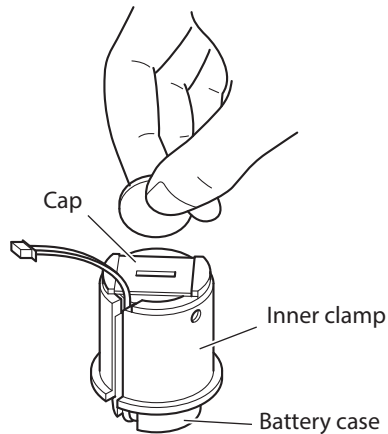

Fig. 23 Removing the Battery Cap
- 4 Turn the cap on the battery case using a coin, and remove the battery. (Figs. 23 and 24).